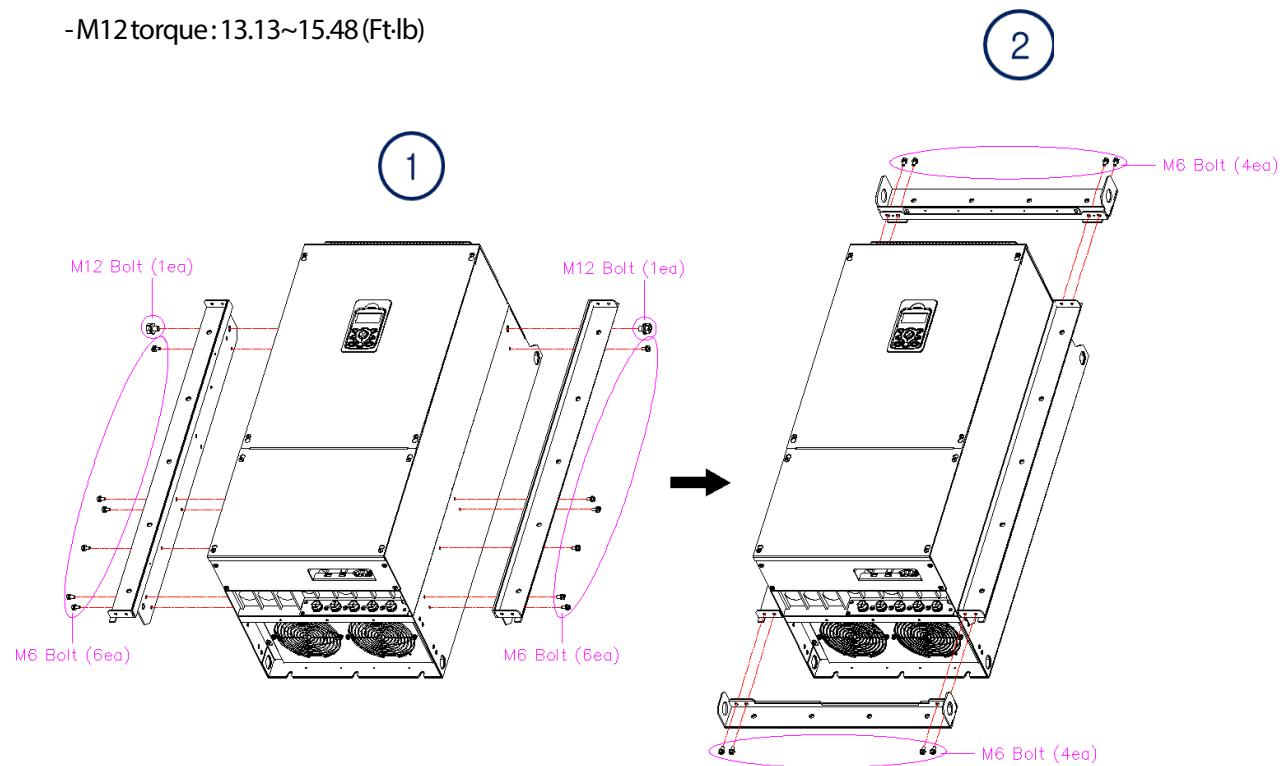

Figure 4. Installation
- ② Fasten the Flange Option with the remaining top and bottom pieces, using the remaining bolts.
- ① Insert the Flange Option to fit on the sides of the base, fastening the side pieces as shown in Figure 4.